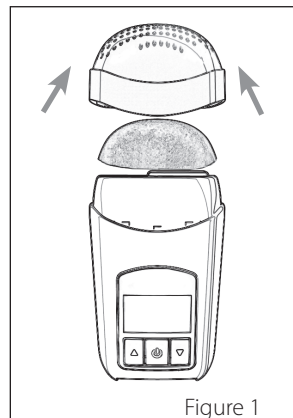

Figure 1
1. Remove the **End Cap** from the **Z1**. Hold the body of the **Z1** in one hand. With the other hand, squeeze firmly on the sides of the **End Cap** and pull it up and away from the **Z1**. (Figure 1)